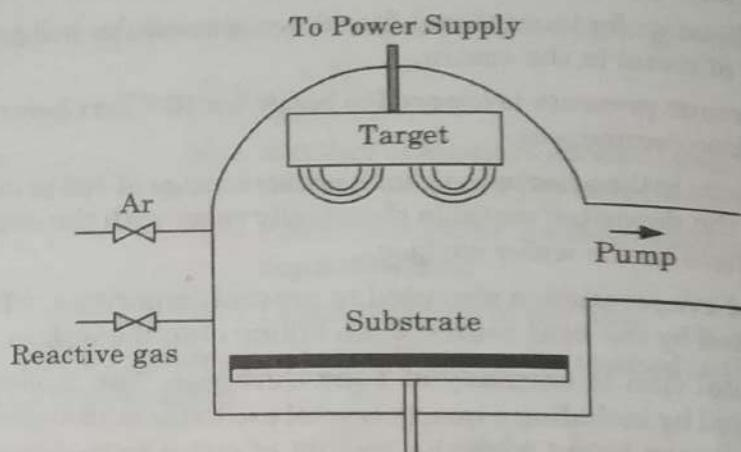

Fig. 5.12.1. A simple reactive sputtering system.
8. We start with showing a schematic of a simplified reactive sputtering processing chamber as shown in Fig. 5.12.1.
9. Fig. 5.12.1 illustrates the flux of sputtered particles from the target as well as the flux of reactive gas molecules arriving to the substrate.